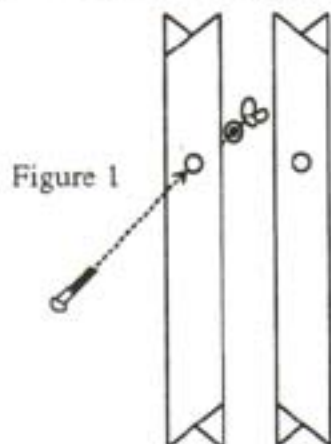

Figure 1
- 1) Take the four tables legs and make two sets as shown in figure 1. Insert carriage bolts through the holes in the legs and secure with a flat washer and wingnut. Make sure the two leg assembly are mirror images of one another as shown.